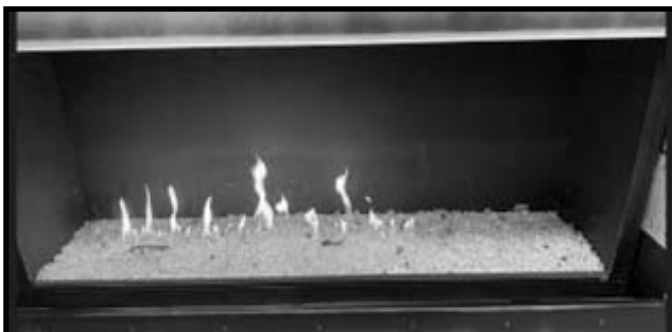

Figure 11.8 Incomplete Burner Lighting
7. Turn the appliance on. Wait for the 2 minute pre-purge and ensure that the entire burner lights. If the burner does not light smoothly or completely, note the location that the flame stops or pauses. Figure 11.8 shows an example of incomplete lighting.